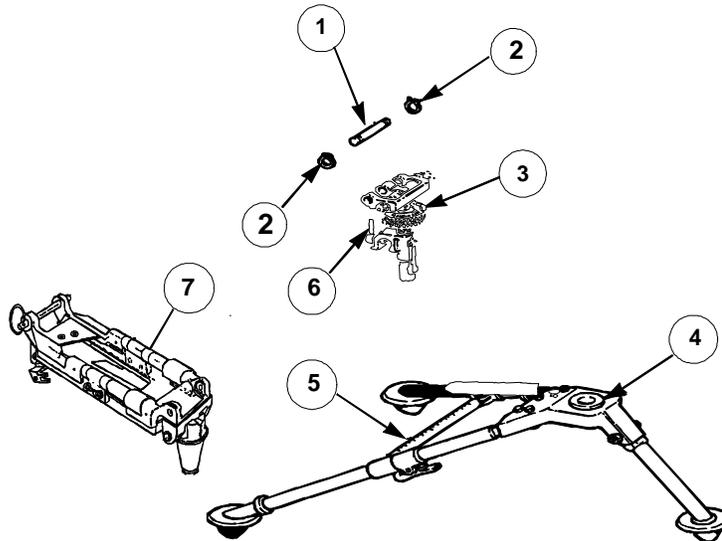

Figure 1
- a. **DISASSEMBLY:** Remove the following parts in accordance with subsequent instructions and Figure 1: